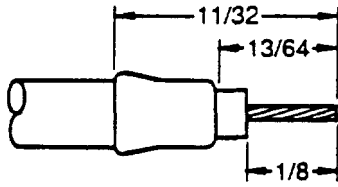

Figure 23. Strip Center Conductor
e. As shown in Figure 23, strip 1/8-inch of insulation from center conductor, allowing 13/64-inch between edge of braided shield and end of center conductor. Twist center conductor to prevent splayed wire strands.